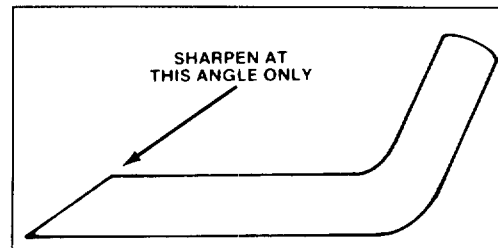

Figure 24
6. SHARPENING BLADE—Using a file, sharpen top side of blade and maintain original cutting angle (Fig. 24). The blade will remain balanced if same amount of material is removed from both cutting edges.